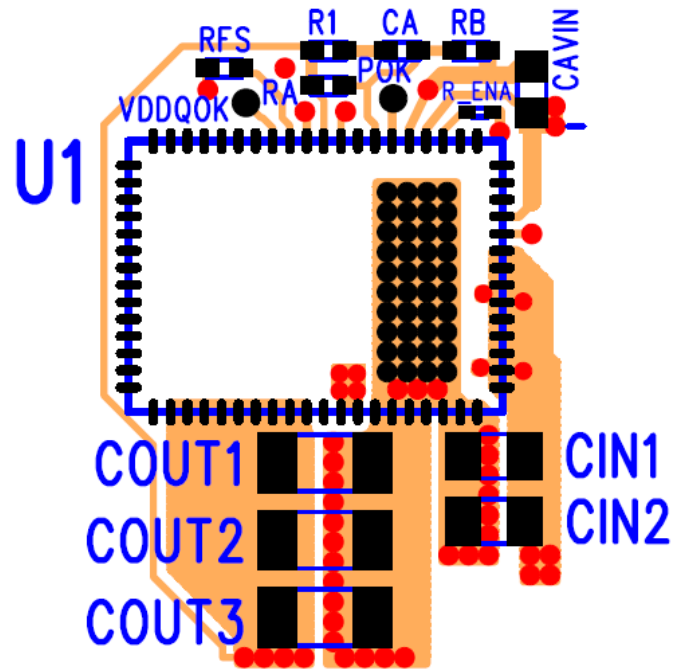
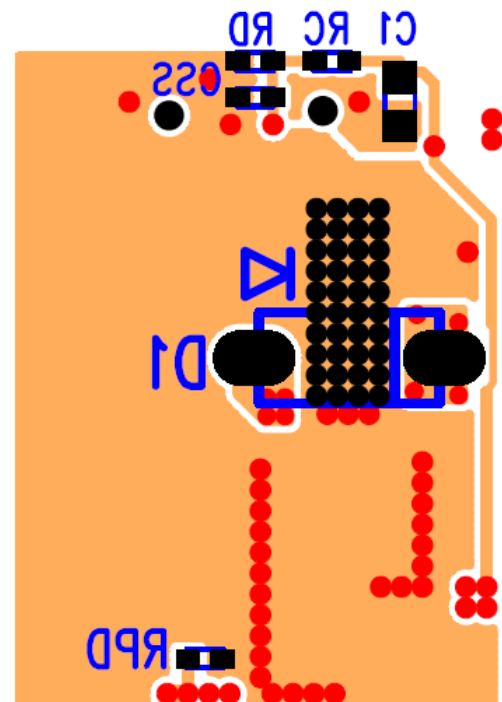

Figure 8: Top PCB Layer with Critical Components and Copper for Minimum Footprint (Top View)
Figure 9: Bottom PCB Layer with Critical Components and Copper for Minimum Footprint (Top View)
Figure 8 and Figure 9 shows critical components along with top and bottom traces of a recommended minimum footprint of the EV1380QI layout with ENABLE tied to  $V_{IN}$ . Alternate ENABLE configurations and other small signal pins need to be connected and routed according to specific customer application. Please see the Gerber files at [www.altera.com/enpirion](http://www.altera.com/enpirion) for exact dimensions and other layers. Please refer to Figures 8 and 9 while reading the layout recommendations in this section.
The drill diameter of the vias should be 0.33mm, and the vias must have at least 1 oz. copper plating on the inside wall, making the finished hole size around 0.20-0.26mm. Do not use thermal reliefs or spokes to connect the vias to the ground plane. This connection provides the path for heat dissipation from the converter. Please see Figures 8, 9, 10, and 11.
**Recommendation 5:** Multiple small vias (the same size as the thermal vias discussed in recommendation 4) should be used to connect ground terminal of the input capacitor and output capacitors to the system ground plane. It is preferred to put these vias under the capacitors along the edge of the GND copper closest to the +V copper. Please see Figure 8 and Figure 9. These vias connect the input/output filter capacitors to the GND plane and help reduce parasitic inductances in the input and output current loops. If the vias cannot be placed under  $C_{IN}$  and  $C_{OUT}$ , then put them just outside the capacitors along the GND slit separating the two components. Do not use thermal reliefs or spokes to connect these vias to the ground plane.
**Recommendation 6:** AVIN1 and AVIN2 are the power supplies for the internal small-signal control circuits. AVIN1 and AVIN2 should be powered by an external supply. In Figure 8, the filter capacitor  $C_{AVIN}$  is connected closely from the AVIN1 and AVIN2 pins to AGND for proper filtering of the control circuit.
**Recommendation 7:** The layer 1 metal under the device must not be more than shown in Figure 8. See the section regarding exposed metal on bottom of package. As with any switch-mode DC/DC converter, try not to run sensitive signal or control lines underneath the converter package on other layers.
**Recommendation 9:** Keep  $R_A$ ,  $C_A$ ,  $R_1$  and  $R_B$  close to the VFB pin (see Figure 8). The VFB pin is a high-impedance, sensitive node. Keep the trace to this pin as short as possible.
**Recommendation 12:** The Schottky diode D1 should be connected with anode to SW and cathode to VDDQ with very low inductance traces. Place D1 directly under the device as shown in Figure 9. Vias near SW and VDDQ connect these pins to the D1 terminals. The recommended diode for this layout is ST Microelectronics TMBYV10-40FILM. Contact Power Applications support for alternate options for this diode.